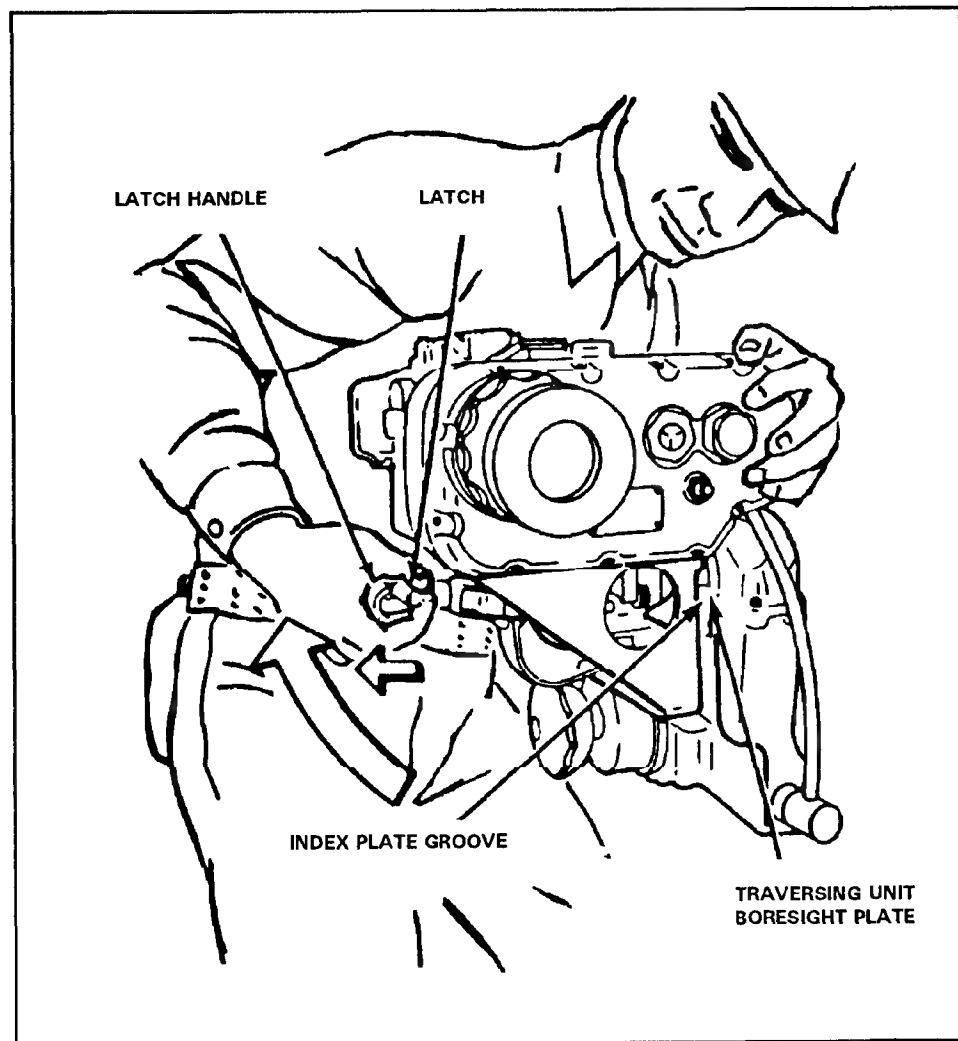
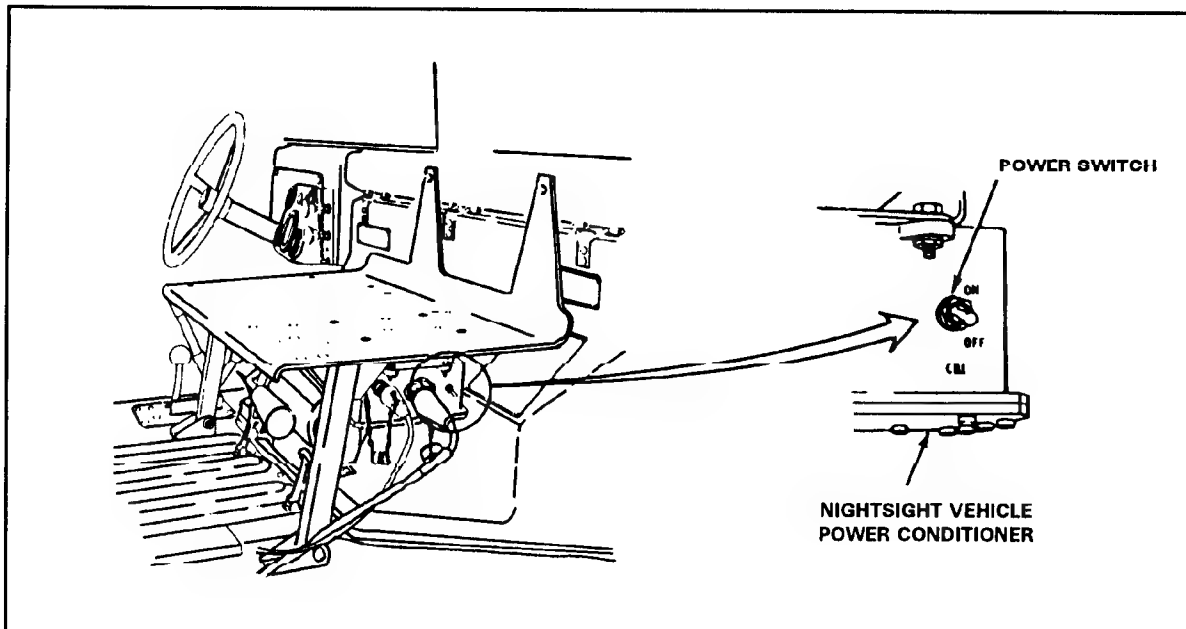

Figure 3-11. Daysight tracker on traversing unit boresight plate.
Figure 3-12. Nightsight power cable 2W2, J1 connector, and vehicle power conditioner.
(1) The driver-loader hands the daysight tracker to the gunner.
(2) The gunner mounts the daysight tracker on the traversing unit boresight plate. He secures the daysight tracker by locking the latch handle (Figure 3-11, page 3-12).
(3) The driver-loader stows the nightsight case in its bracket.
(4) The squad leader connects connector P2 of the TVPC power cable to the power conditioner cable.
(5) The squad leader unwinds the nightsight power conditioner cable and TVPC cable and hands both to the gunner.
(6) The gunner connects the nightsight power cable 2W2 to the nightsight input power conditioner J1 (Figure 3-12, page 3-13), then connects the TVPC power cable P1 to connector J1.
(7) The squad leader turns on the TVPC.
(8) The gunner turns on the power conditioner.
(9) The gunner checks steps 10 through 15 of system self-test on TOW 2 (positions 1 and 7 on basic TOW), then collimates the nightsight.